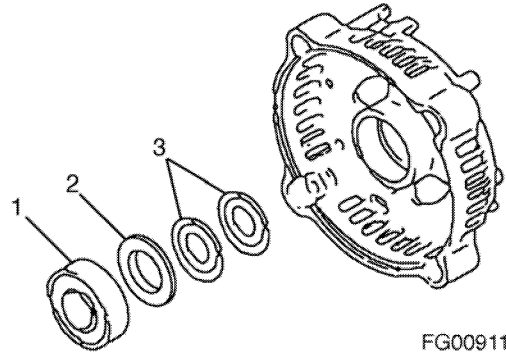

Figure 397
1. If removed, reinstall the two trust washers (3, Figure 397) and bearing cover (2, Figure 397) in the rear frame housing. Lubricate the outside diameter of a new bearing (1, Figure 397). Press the bearing into the rear frame housing.